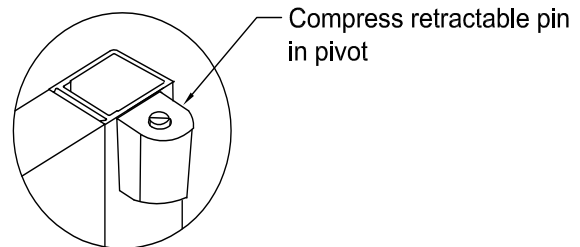

Figure 8
- Compress the retractable pivot pin in the top pivot and set door up into position so the pivot pin engages the frame pivot. See Figure 8 & 7.